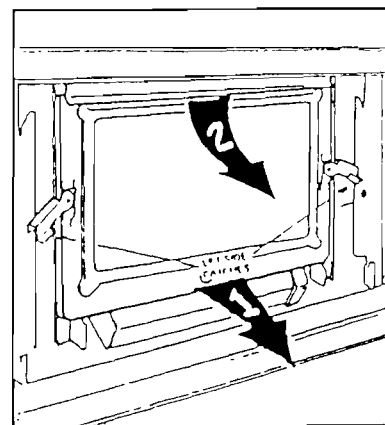

Fig. 5A
- (a) First remove the glass door by releasing the two catches one on each side and pulling the door towards you at the bottom and downwards (See Fig. 5A).